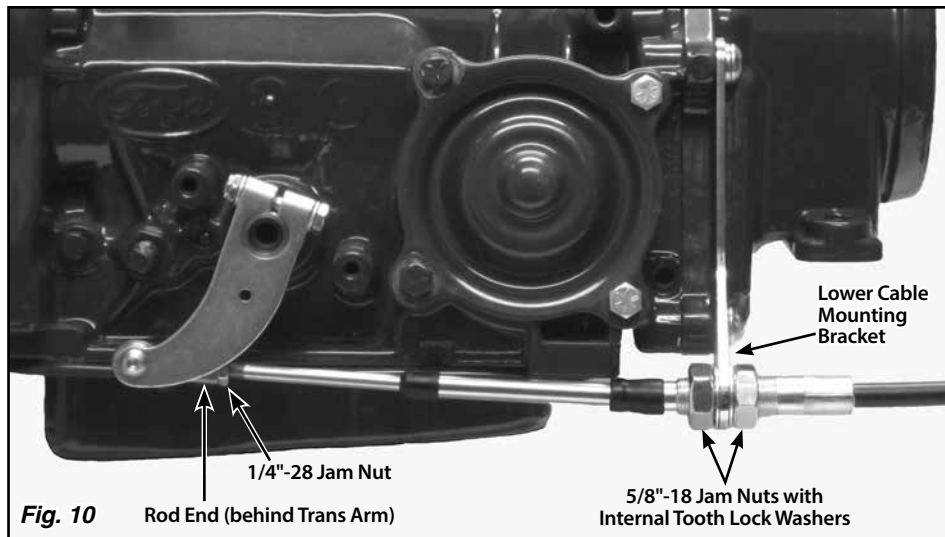

Fig. 10 Rod End (behind Trans Arm)
Step 14: Make sure that the Shifter and the transmission are both in Park. Attach the rod end at the transmission to the trans arm using a 1/4"-28 x 1" button head bolt, flat washer, and nylock nut. The rod end attaches to the inside of the trans arm, towards the transmission. The button head bolt can be installed from either direction, but make sure the rod end is sandwiched between the flat washer and the trans arm. **Fig. 10 & 11**